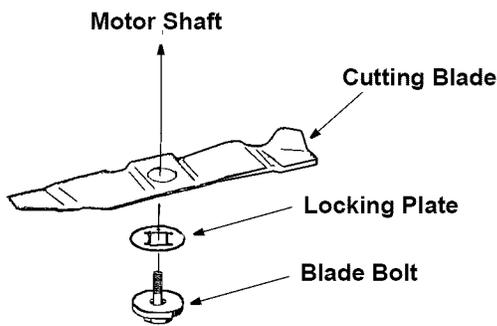

Figure 11
- Using a 24 mm wrench or socket, loosen the blade bolt and remove the blade. Refer to Figure 11.
- Place the cutting blade, locking plate, and blade bolt against the blade hub assembly and thread the blade bolt on finger tight. Refer to Figure 11.
- Remove the blade and blade hub assembly and lubricate the motor shaft with light oil or engine oil. Refer to Figure 11.